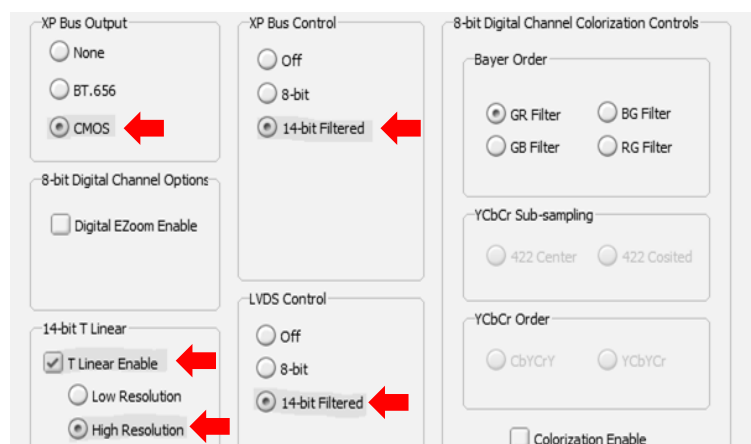

Figure 9: FLIR Camera Controller Interface - Digital Video Tab
2. Select all the settings shown in Figure 9.